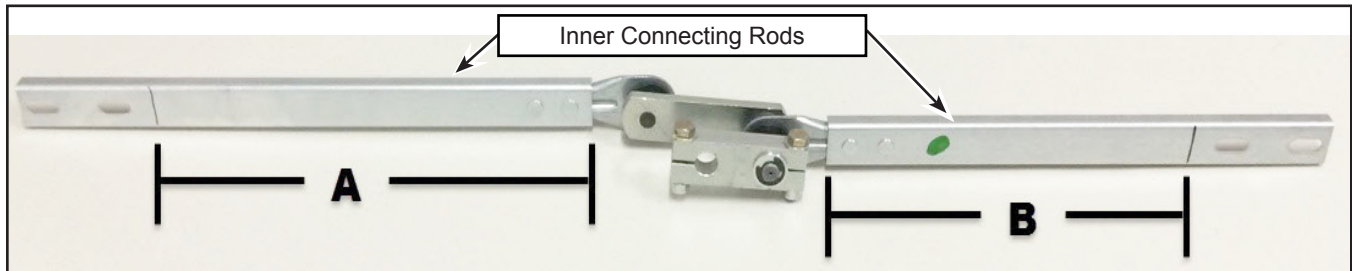

Figure 7 - Transfer Dimensions A and B to the New Linkage Assembly
- 1.12. Measure and record the dimensions according to the marks made at step 1.7: dimension "A" for street side and "B" for curb side. Transfer these dimensions to the new linkage. See Figure 7.